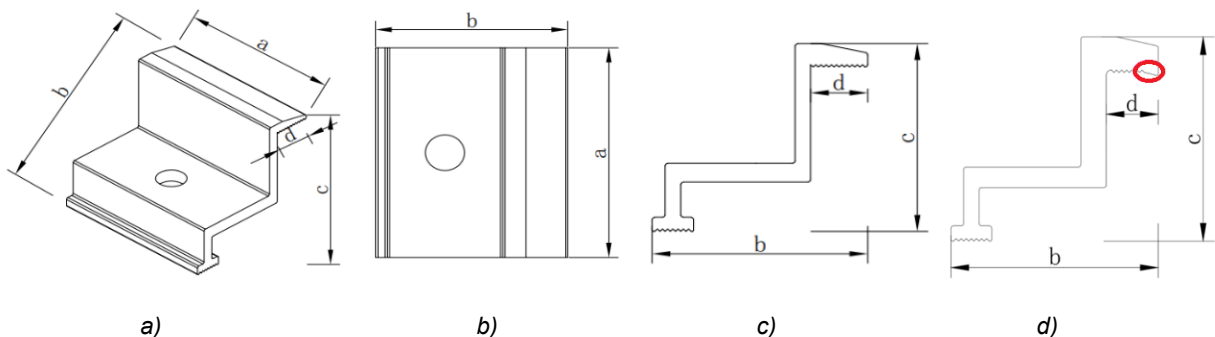

Figure 11. Recommended clamp schematic.
The clamps must not be installed in contact with the front glass of the Module and must not deform, or exercise excessive pressure on, the Module frame. Recommended clamp schematic shown as follows (see Figure 11). Ensure that the clamps do not create a shadow on the Module. Under no circumstances may the frame be altered. When choosing the mounting method for the clamps, make sure that there are at least four clamps on each Module. Different mounting positions of the clamps, as well as the way rails support the modules, determine the maximum load capacity of the Module. Table 7 to Table 9 as follows, show the different mounting methods and the positions of the clamps and rails for the different mounting methods. The distance between the installation position of the long-side clamp and the edge is represented by L in Table 7 to Table 9. The distance between the installation position of the short-side clamp and the edge is represented by S in Table 8 and Table 9.
- Modules with a length greater than 2.2 m and a width greater than 1.3 m are recommended to be mounted with the camber clamps shown in Figure 11 - d), which enables the clamps to fit better with the frame and provide more stable performance under extreme environmental conditions.